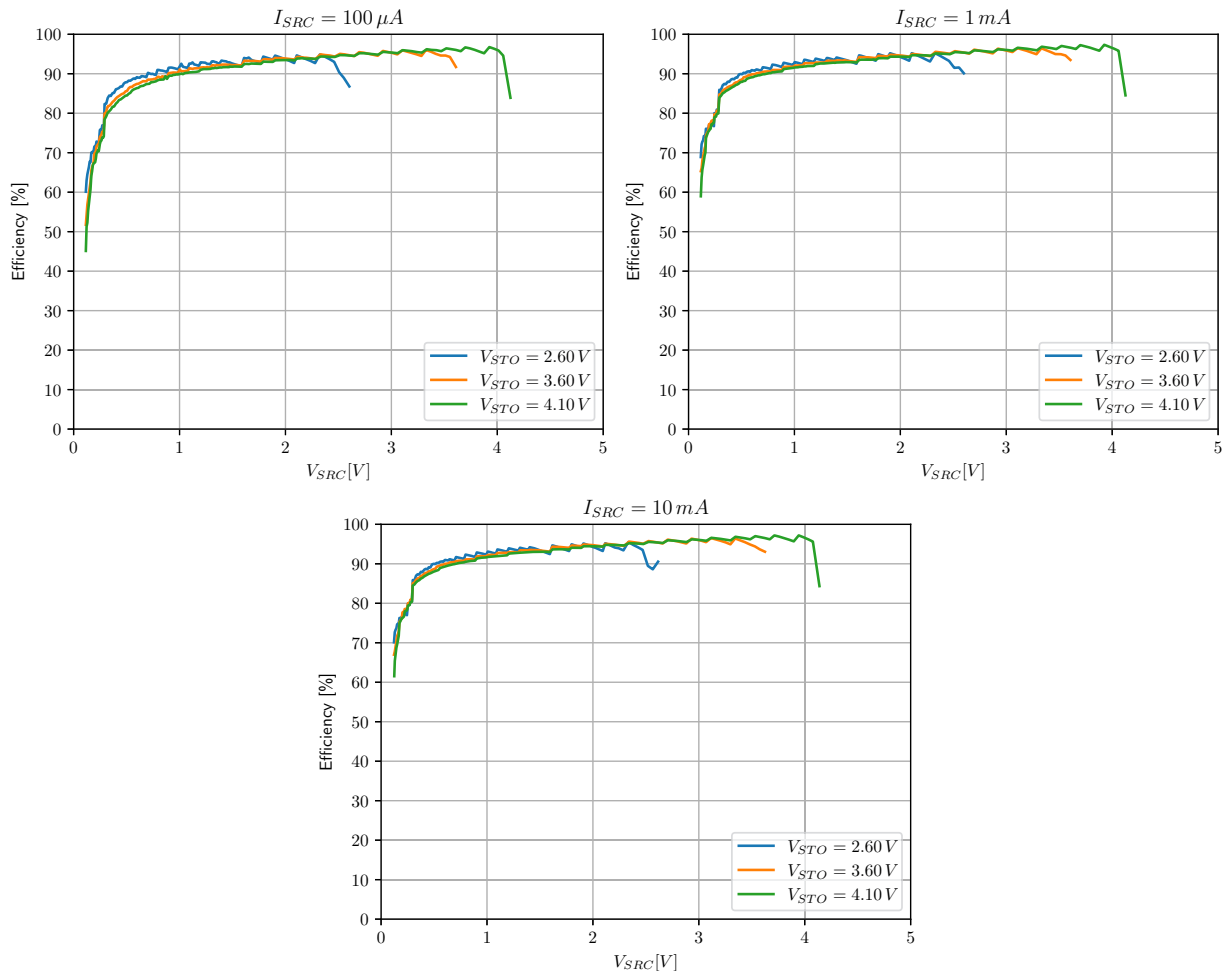

Figure 7: Boost converter efficiency with $L_{BOOSTx} = 33 \mu H$ (Coilcraft LPS4018-333MRB), $BSTxCFG.TMULT = 0x02$ (x3)
- Optional: a device able to act as an I²C master and send I²C commands to the AEM13921. Only useful when testing settings that are not accessible through the configuration pins, such as boost timings. Please note that, the results shown on Figure 7 are with x3 boost timing, which is the default value when not configuring the AEM13921 through the I²C registers, but must be configured if the I²C is used.